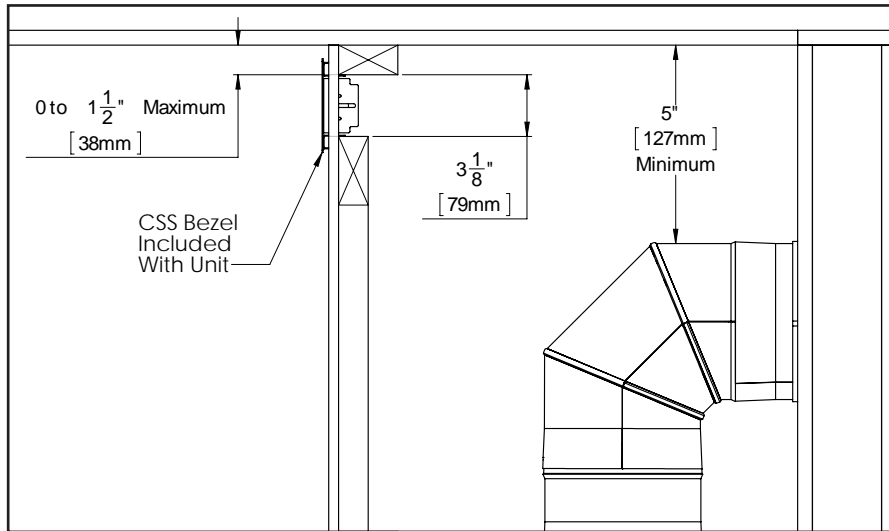

Figure 45: Option 3 Bezel
**Option 4: Bezel** - The included bezel may be desired to accentuate the CSS outlet. This installation will also cover the edge of the finishing material at the cutout. Construct the framing in a way that provides a 55 inch (1397mm) by 3 inch (76mm) cutout to mount the bezel. The top of the cutout must be 1 1/2" from the top of the chase. It is essential that these dimensions are followed and not to deviated from them when using combustible materials inside the chase (see Figure 45).